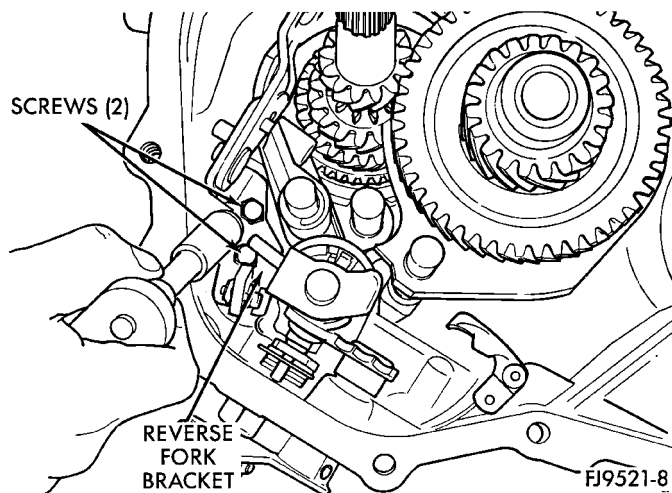
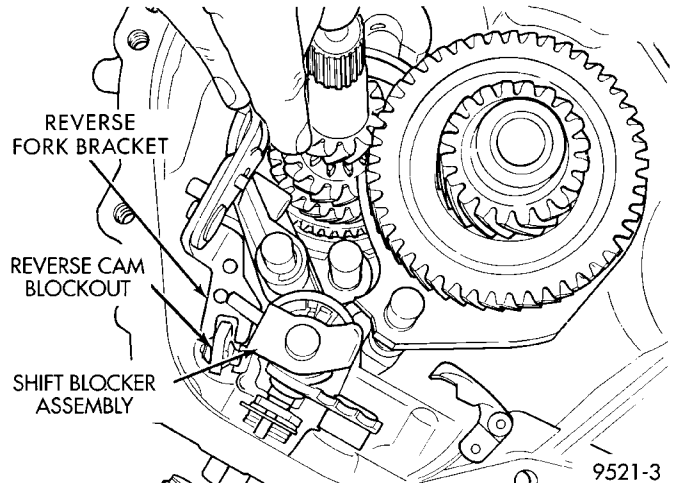

Fig. 37 Screws Retaining Reverse Fork Bracket
Fig. 38 Remove Reverse Fork Bracket
(8) Remove two screws retaining reverse fork bracket (Fig. 37). Remove reverse fork bracket and reverse cam blockout assembly (Fig. 38).